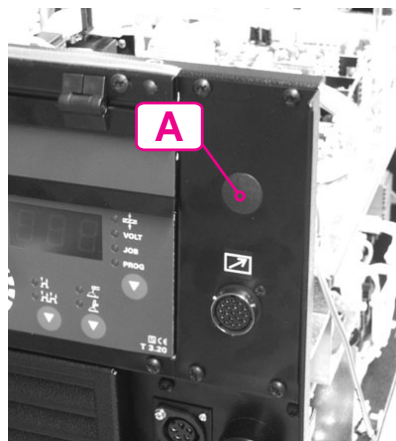

Fig. 1 Blind plug
- Remove blind plug (Fig. 1, A)